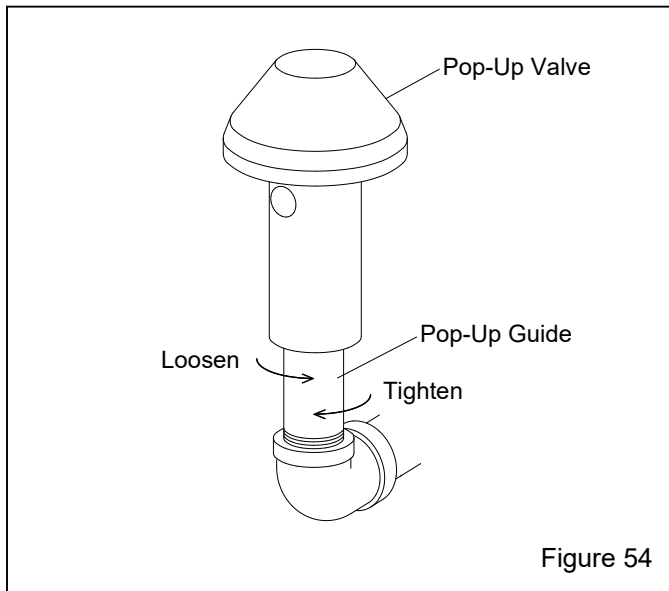

Figure 54
7.18.5 Use a short pipe wrench to unscrew the pop-up valve guide from the elbow by turning it counterclockwise, as shown in Figure 54. Remove the pop-up valve and guide from the machine.